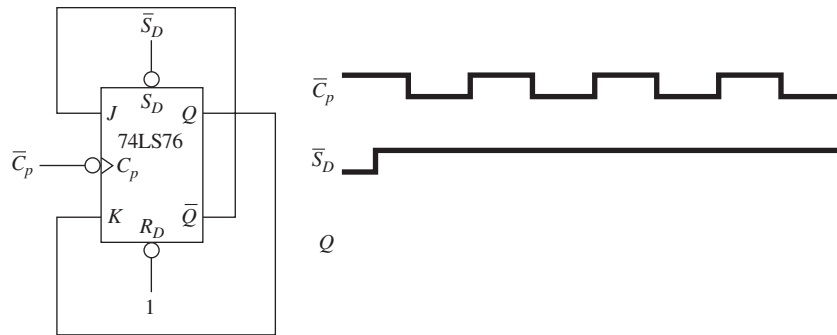

Figure P31
- C** 31. Sketch the output waveform at Q for Figure P31.